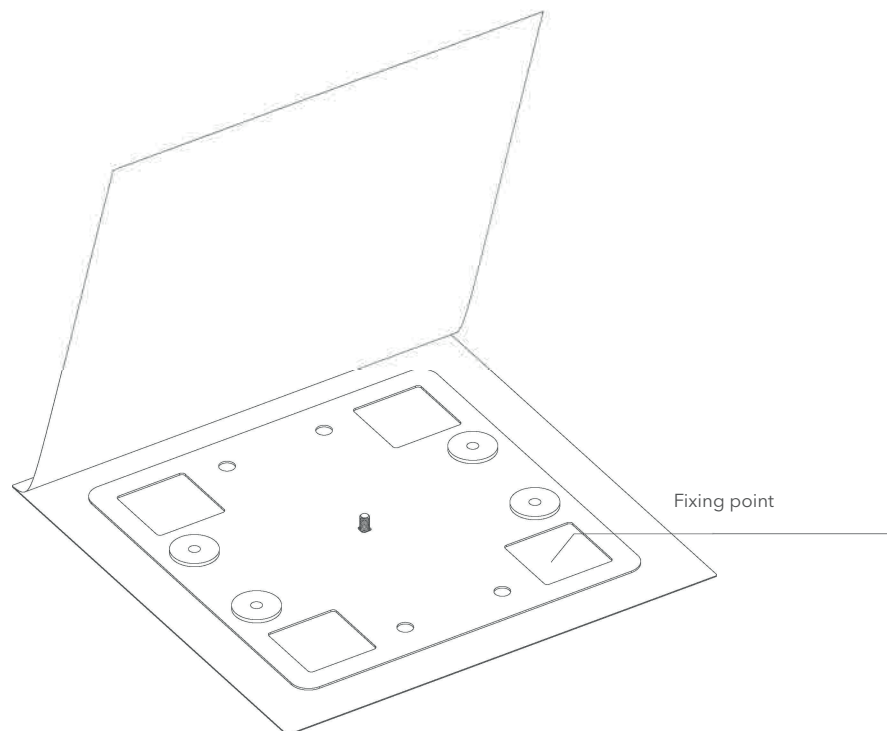

Fig. 4 Membrane welding at attachment points
- 3** Press on the membrane measuring 510 x 510 mm. Drill holes for lock bolts. Weld the membrane at four fastening points and 50 mm around the entire fastening plate (Fig. 4).